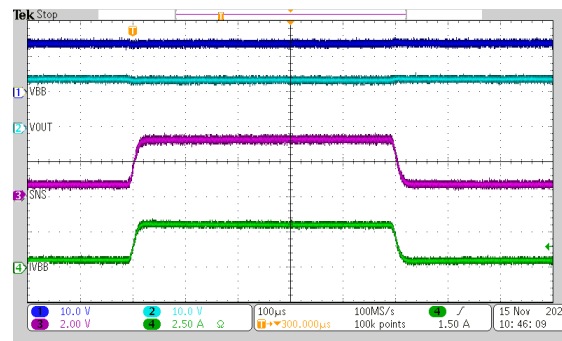

**Figure 9-7. Load Step**
**Figure 9-7** shows a test example of a load step from 500 mA to 3 A back to 500 mA. Test conditions:  $V_{BB} = 13.5$  V, input is high, load is 6.75  $\Omega$  and then changed to 4.5  $\Omega$  then back to 6.75  $\Omega$ , ILIM pin is shorted to GND. CH4 is the output current, CH3 is the SNS pin. CH2 is the output voltage, VOUT. CH1 is the supply voltage, VBB